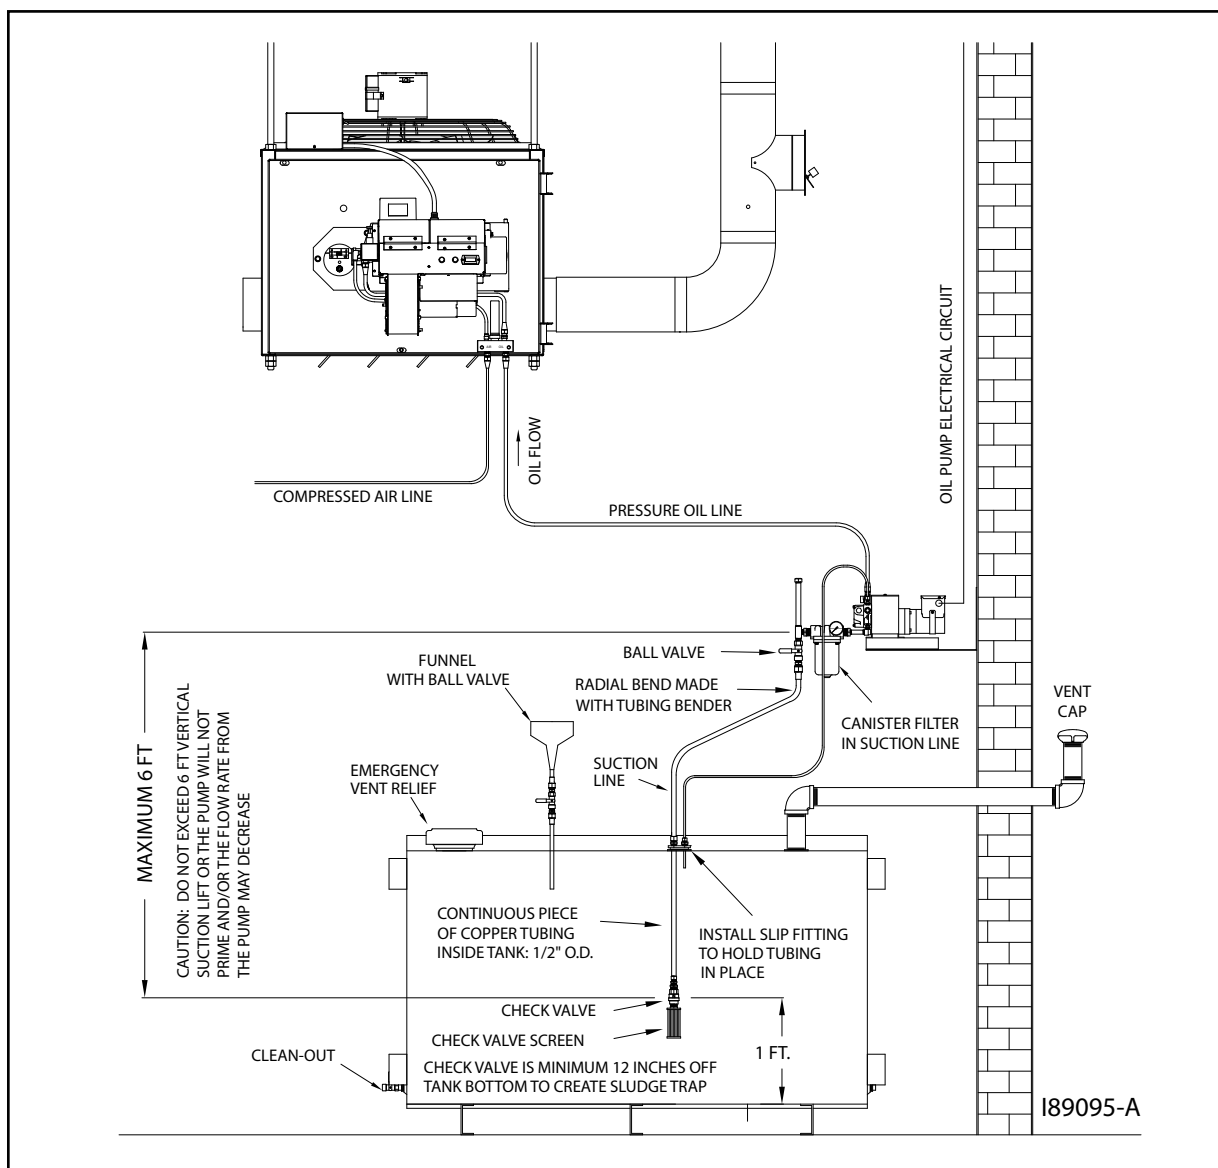

Figure 4J - Oil Line Installation Overview
- u. Install a vent from the tank to the outside of the building according to code. The tank must be properly vented to allow air to enter the tank as oil is pumped out and to safely vent fumes to the outside. See Figure 4J.
Refer to Figure 4J as needed.